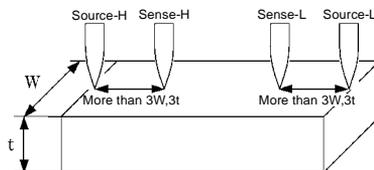

Figure 8 Probe Positions on Wider/Thicker DUT
Generally, if the distance between the voltage detection points (Sense-H, Sense-L terminals) and their corresponding current application points (Source-H, Source-L terminals) is greater than the width (W) or thickness (t) of the DUT, current distribution may be considered uniform. As shown in Fig. 8, sense leads should be 3W or 3t mm or more inside from the Source leads.